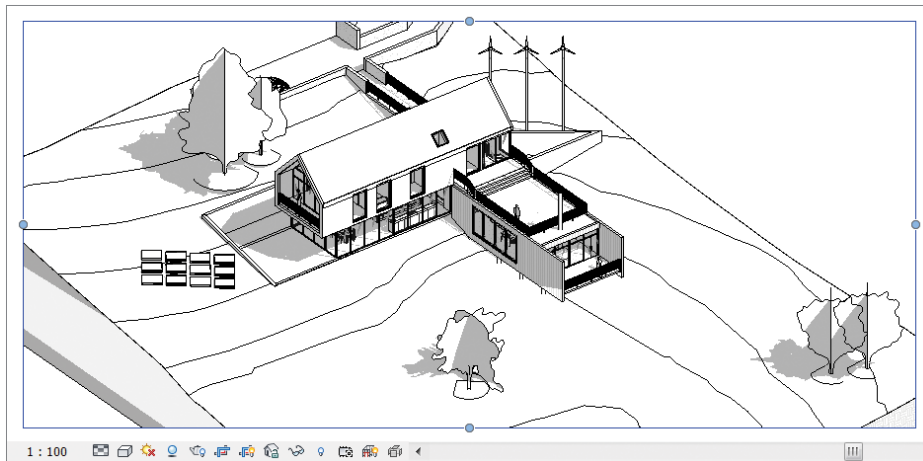

FIGURE 1.5 The Show Crop Region tool and the View Control Bar
7. The next icon on the View Control Bar is Show Crop Region. Click this to see the crop box for the view. Now that you see it, select it and use the blue grips that appear to adjust your crop as you desire. See Figure 1.5 for an example.